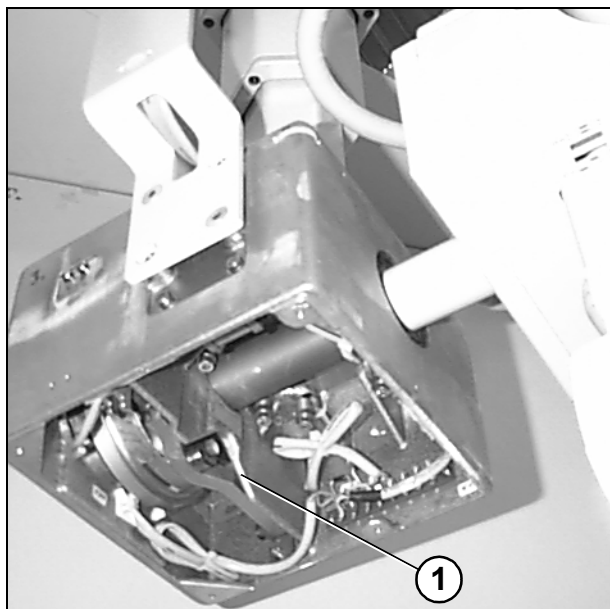

Fig. 13
- Check rotation around the horizontal axis (DHA) (1/ Fig. 13)